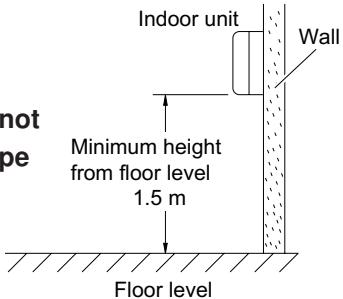

Fig. 3
install the unit within the maximum elevation difference (H) above or below the outdoor unit and within a total tubing length (L) from the outdoor unit as detailed in Table 1 and Fig. 3.